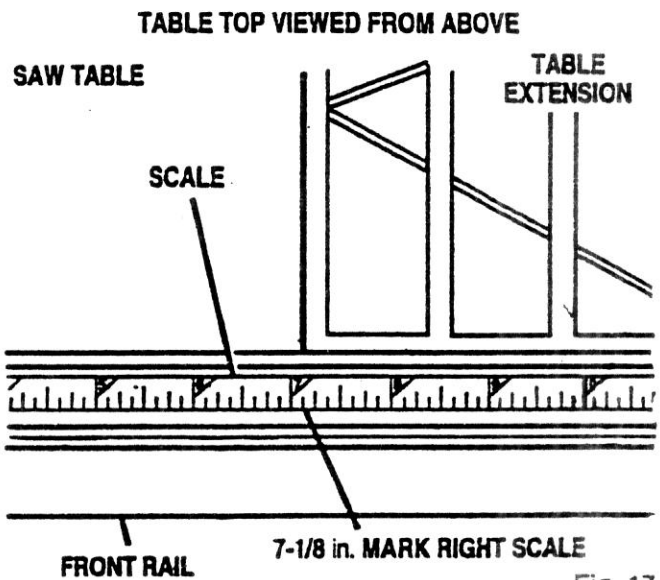

Fig. 17
- Align the rail left to right - Match the 7-1/8 in. mark on the right scale to the right edge of the saw base (main table). See Figure 17.